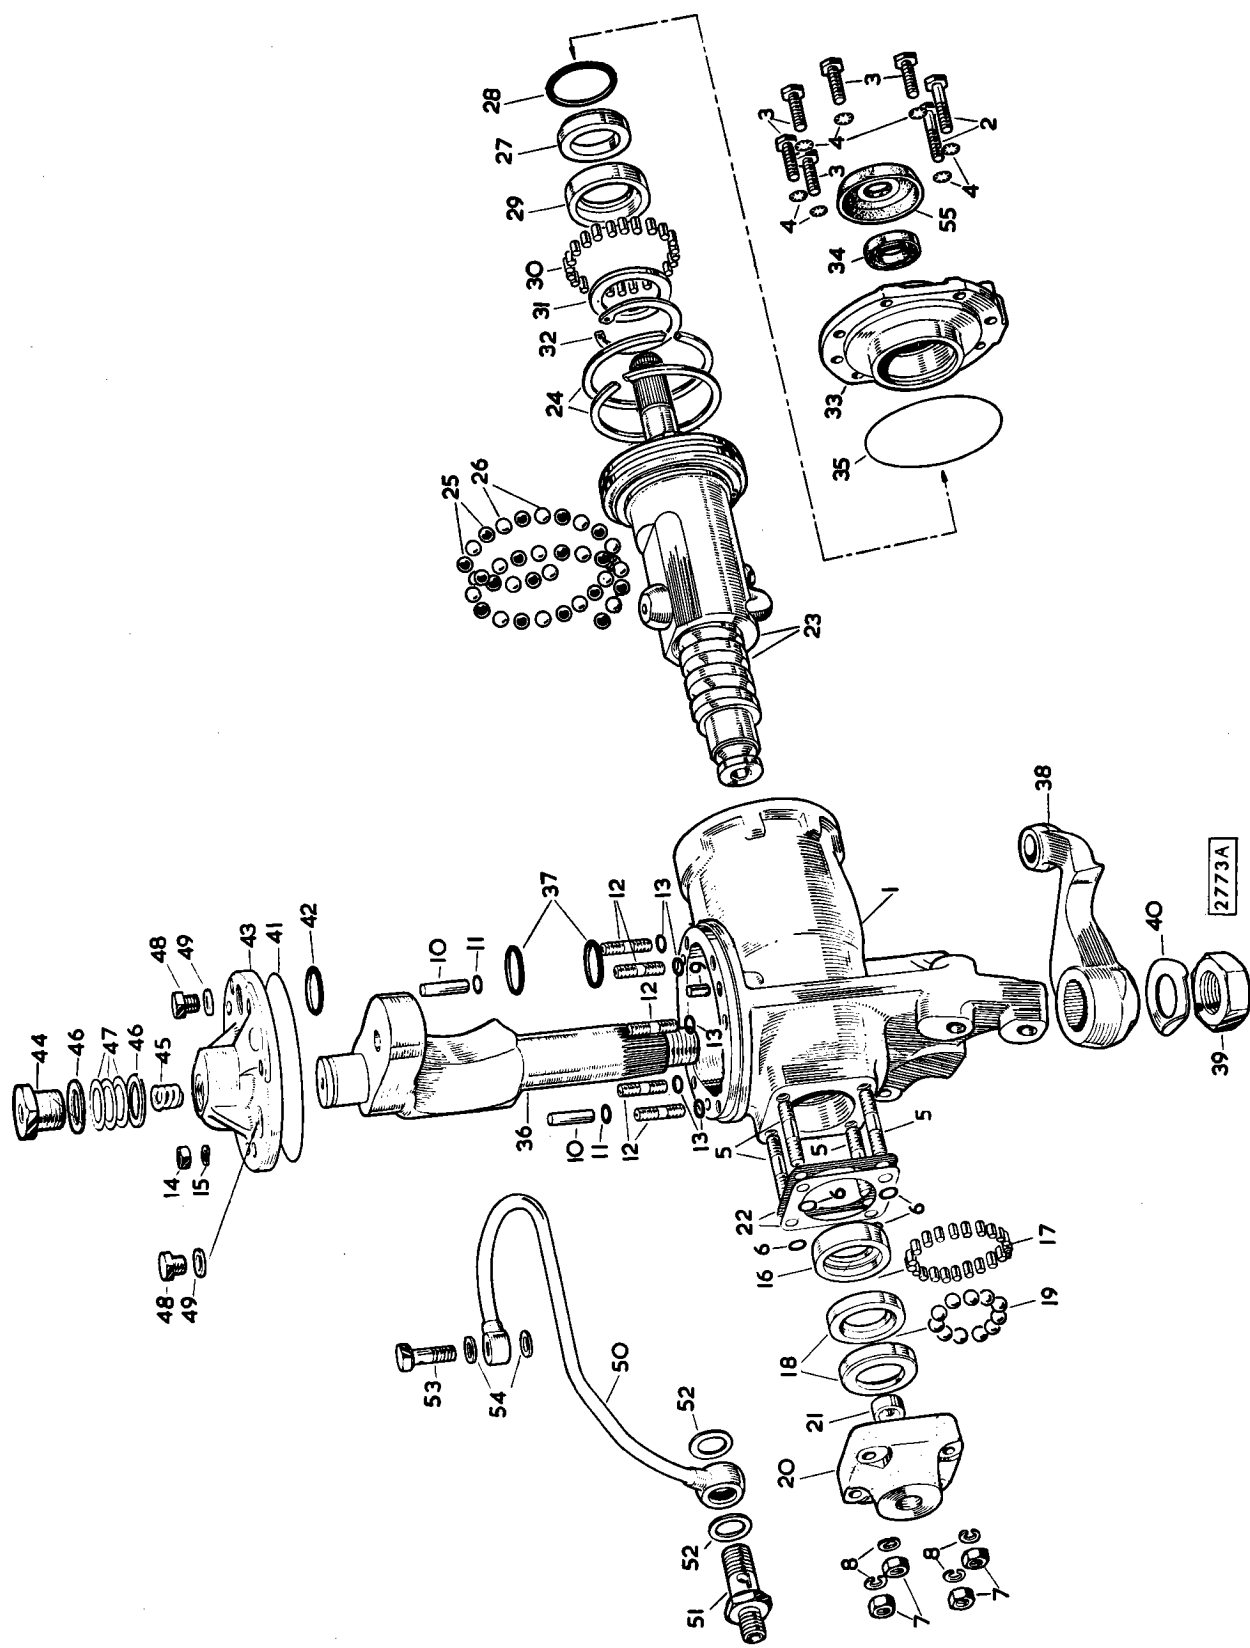

Fig. 27. The Steering Unit—Second Type (Power-Assisted)
REMOVAL (Fig. 27)
DISMANTLING (Fig. 27)
Key to Fig. 27
ASSEMBLING (Fig. 27)
Adjustment of the rocker shaft end-float is by means of shims (47 Fig. 27) located under the head of the adjusting screw. The shims are available in .005", .010" and .015" (.13, .25 and .38 mm.) sizes. Note that a copper sealing washer (46) must be fitted to each side of the shim pack.
- (b) Fit the rocker shaft cover complete with existing shims, copper washer and adjusting screw (45) but omit the spring at this stage. Tighten the cover down fully.